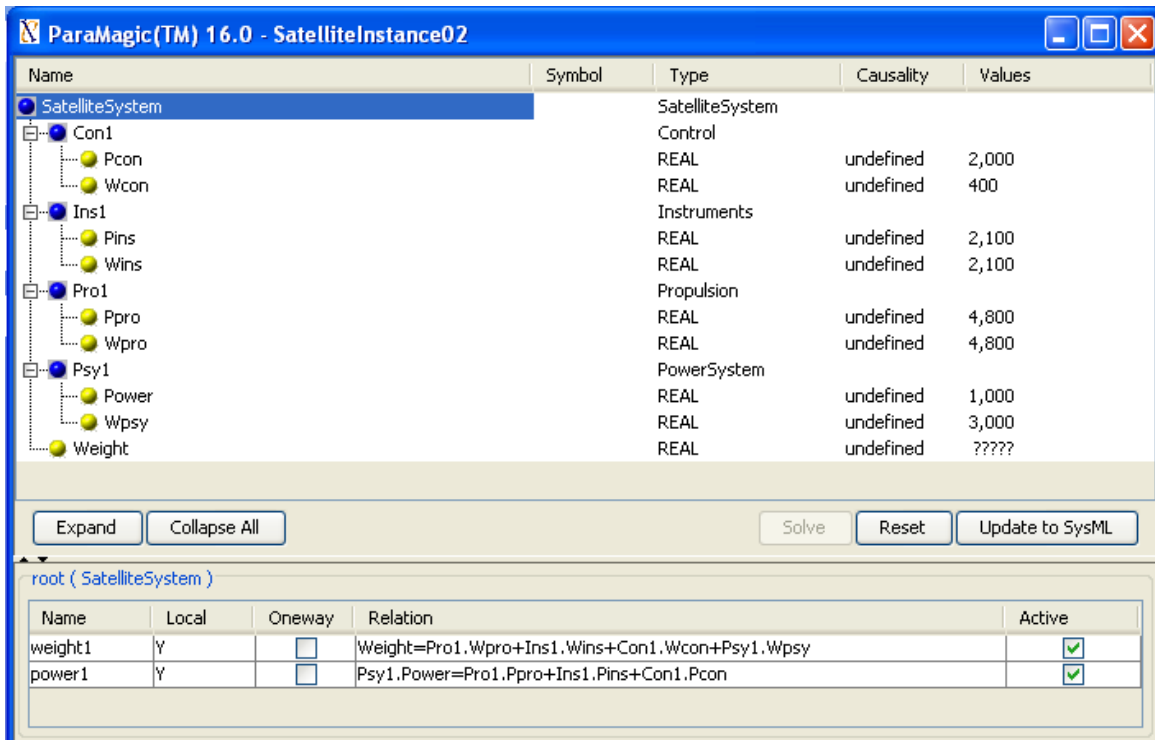

Figure 43 -- ParaMagic Browser
8. Right-click the **SatelliteInstance02** package in the browser and select **ParaMagic > Browse** to open the ParaMagic browser (Figure 43).